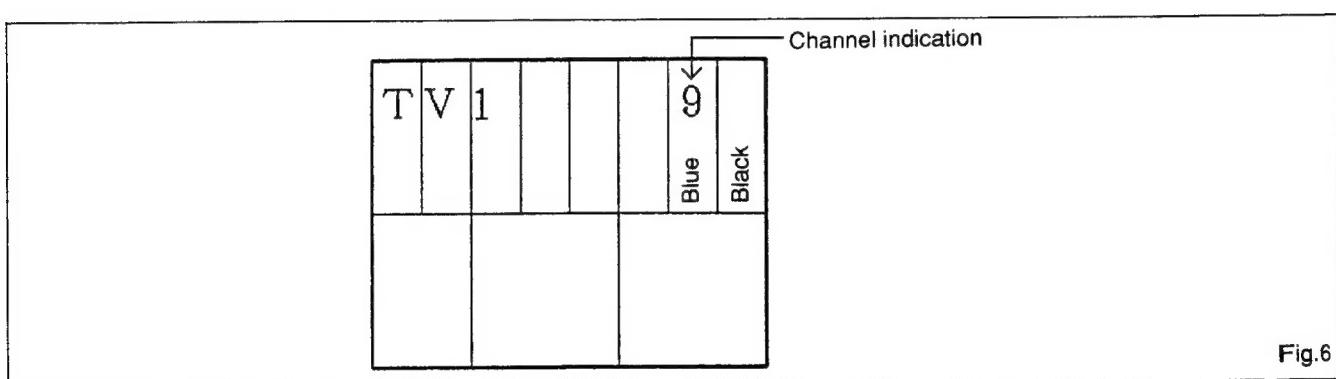

Fig.6
(3) Adjust the TC 501 so that receive channel is indicated in the center of blue bar in the split color bar as shown in Fig. 6.